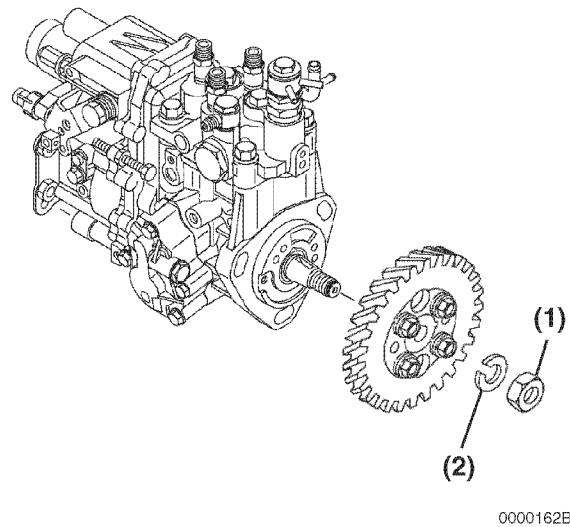

Figure 7-23
5. Reinstall the fuel injection pump drive gear lock washer (Figure 7-23, (2)) and nut (Figure 7-23, (1)). Do not lubricate the threads of the nut or shaft. Hold the crankshaft pulley bolt with a socket wrench and tighten the drive gear nut to the specified torque. See *Special Torque Chart* on page 7-8.